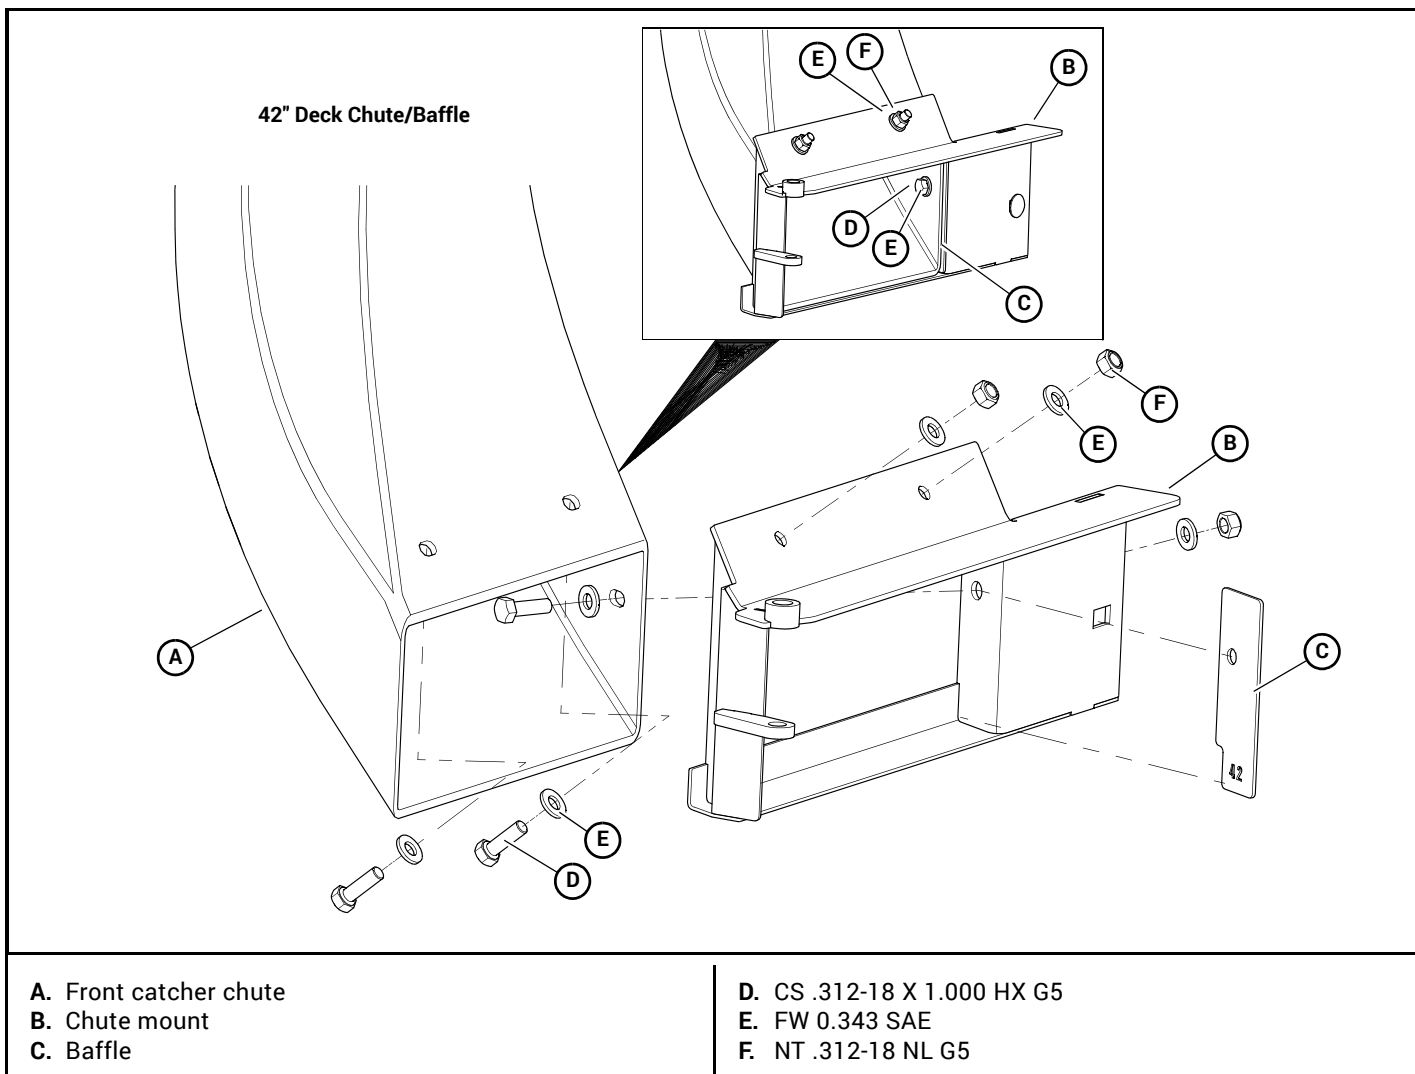

Figure 3-9
14. Attach chute mount to the front catcher chute with the hardware provided. Position the baffle between the chute and chute mount. Figure 3-9